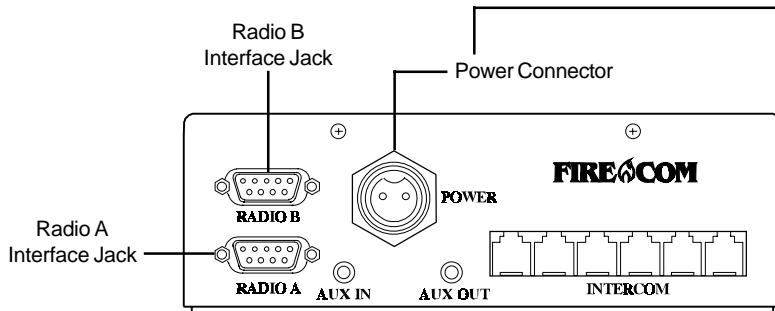

FIGURE 16
- Plug the 9-Pin plug on the end of the supplied MR-0X Mobile Radio Interface Cable into the desired Radio Interface Jack on the rear of the intercom (Figure 16).